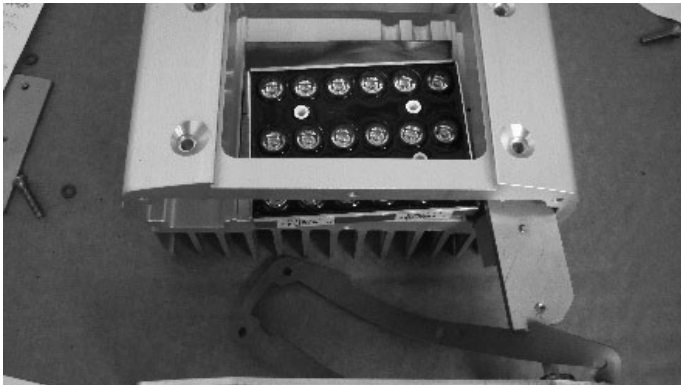

Fig: 7
v) feed the LED board up in to the head and ensure that the thermal pad is in position with holes aligned. Insert and tighten screws WF-442 and line up the lens clamp threaded holes with the screws, Partially tighten, See Fig: 7. Fit bottom plate and tighten the six screws, vi) Re-assemble as per iii, iv and v from Glass Lens Replacement’.